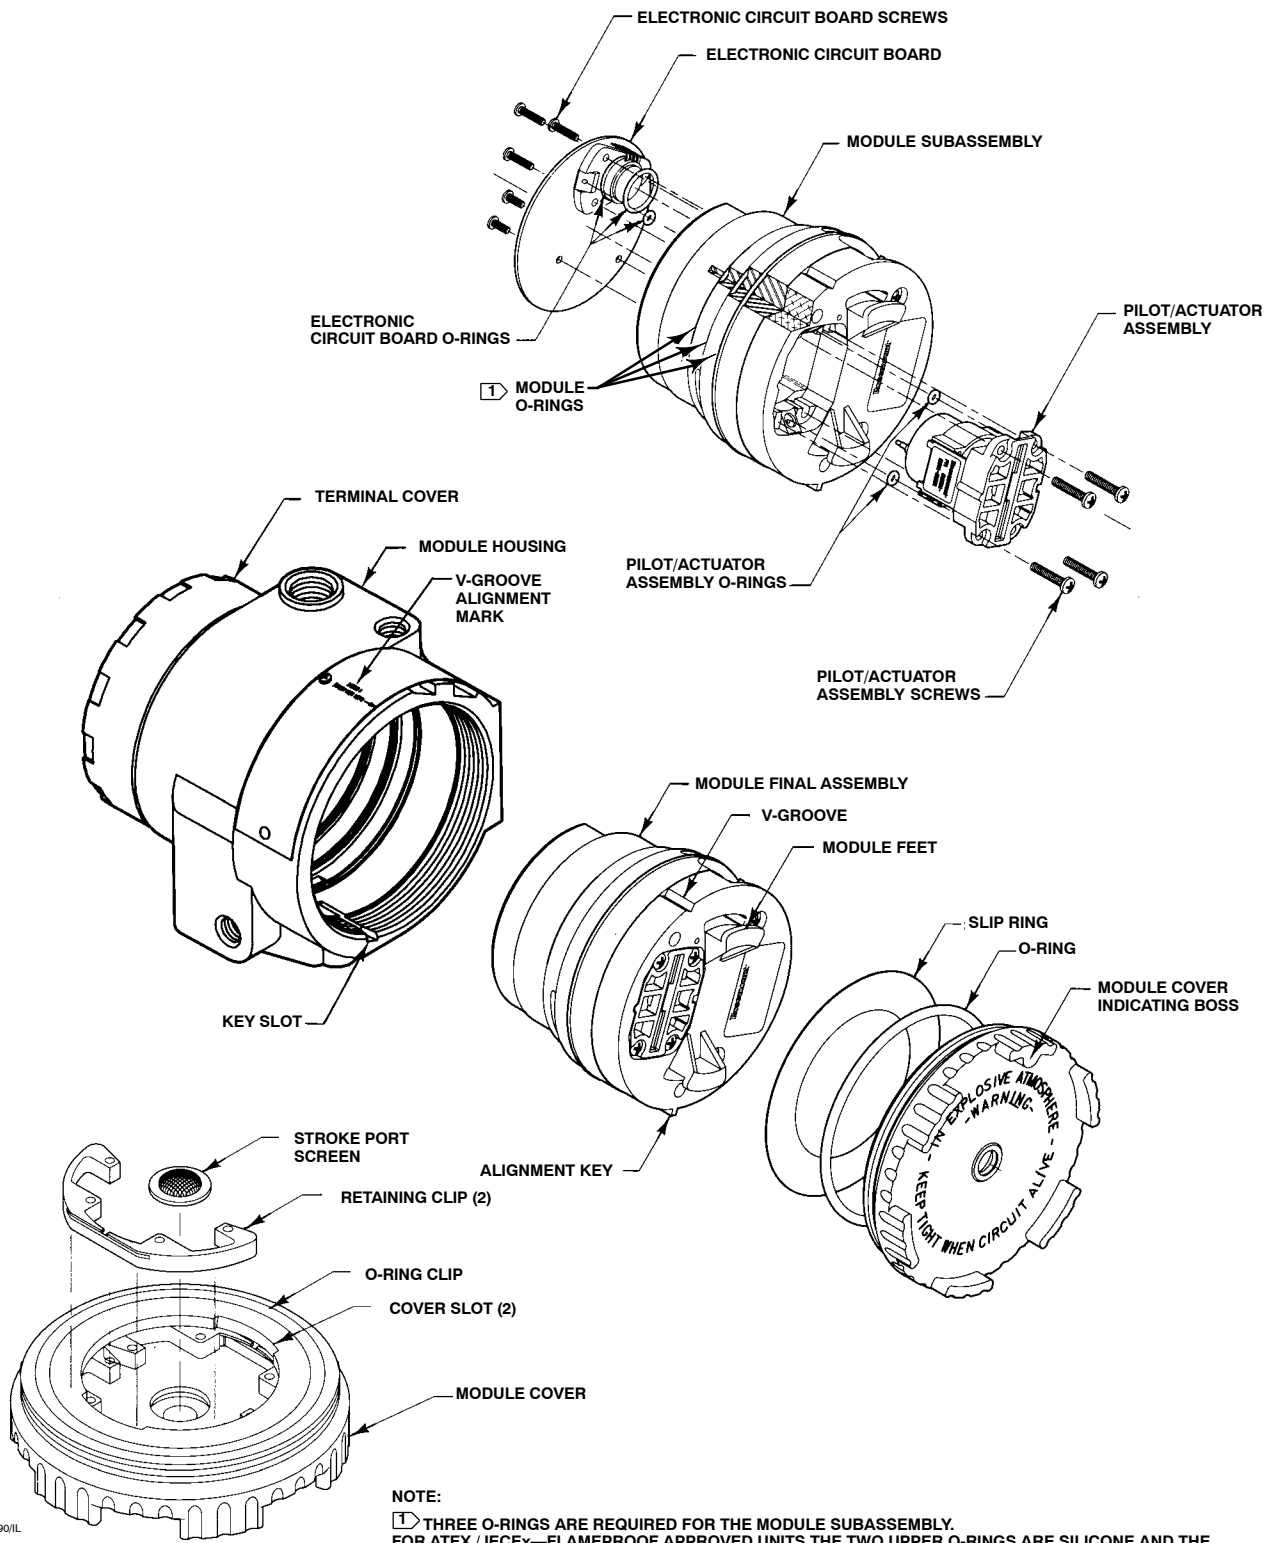

Figure 6-1. Type 846 Exploded View
The active mechanical and electrical components of the transducer are incorporated into a single, field-replaceable module called the module final assembly, as shown in figure 6-1. Electrical connection between the terminal compartment and module final assembly is made by electrical feedthroughs that extend into the module compartment. The feedthroughs enter sockets on the electronic circuit board. The span and zero screws extend through the terminal compartment wall into the module compartment. Connection to the span and zero potentiometers on the electronic circuit board is made by hook and loop fasteners.
The module final assembly consists of three major subassemblies, as shown in figure 6-1. They are the electronic circuit board, pilot/actuator assembly, and module subassembly.
3. Position the retaining clips in the module cover so they are ready to accept the feet of the module final assembly. Ensure the leaves on the retaining clips are facing up. Figure 6-1 shows the correct orientation.
7. Prepare to insert the module into the housing. Align the V-groove located on the module final assembly with the indicating mark located on the nameplate. This positions the alignment key with the key slot. Figure 6-1 shows the location of the V-groove and the indicating mark.
The electronic circuit board is located on top of the module final assembly, as shown in figure 6-1. Beneath the circuit board and permanently attached to it is the pressure sensor. Two jumpers on the circuit board control various functions of the transducer. Figure 6-4 shows the location of these jumpers.
The pilot/actuator assembly is located at the bottom of the module final assembly, as shown in figure 6-1. It is a unitized assembly consisting of the coil, magnet, and spring of the actuator, and the deflector and nozzles of the pilot stage. Two O-rings are part of the pilot/actuator assembly. Table 6-1 shows the O-ring sizes. They are located in the beveled O-ring glands of the module subassembly, adjacent to the nozzles. The pilot/actuator assembly is held in place by four mounting screws.